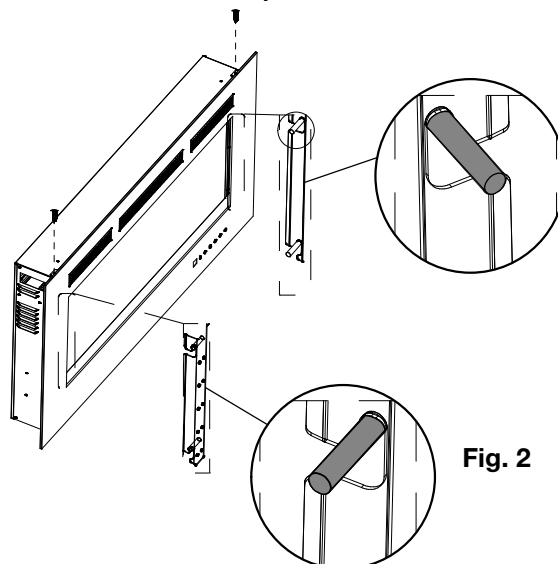

Fig. 2
- Install the mesh trim front by aligning with the pins on the appliance (**Fig. 2**). Press the mesh trim in and down to securely engage with the brackets. It must be fully engaged to ensure the touch display panel performs properly.